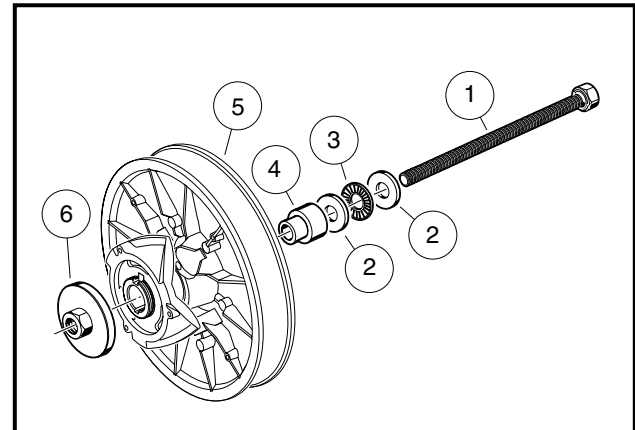

Figure 17-20 Cam Installation Tool
**NOTE:** This process is for field assembly requirements where hydraulic and pneumatic press equipment is not available. Use the Cam Installation Tool (CC 101808401) for this process (**Figure 17-20, Page 17-16**).
- 5.2.1. With the clutch loosely assembled, set the edge of the clutch body (5) on a clean, flat surface (**Figure 17-20, Page 17-16**).
- 5.2.3. Slide the bolt (1) through the clutch body (5) until the threaded bolt, washers, bearing, and hub guide are against the fixed face hub (**Figure 17-20, Page 17-16**).